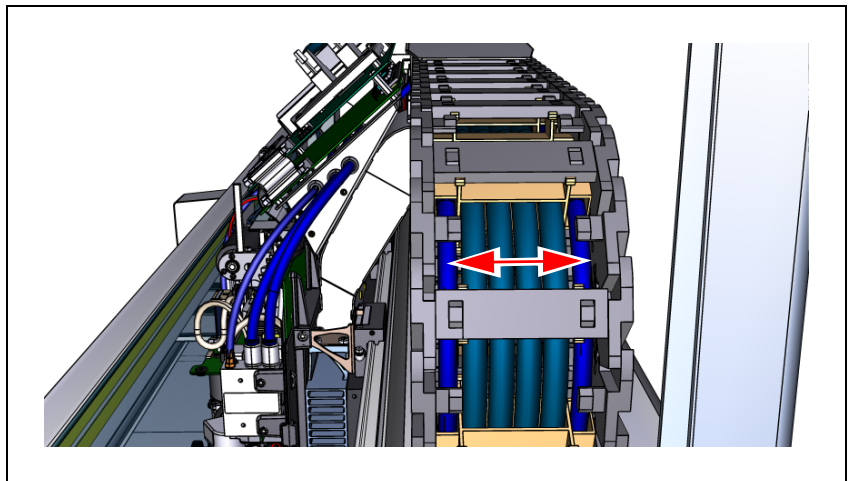

Figure 5-39. Adjust cables and hoses.
- Ensure that the cables and hoses are evenly distributed inside the cable chain. With other words, there is an equal amount of space between each cable and hose inside the cable chain. See Figure 5-39